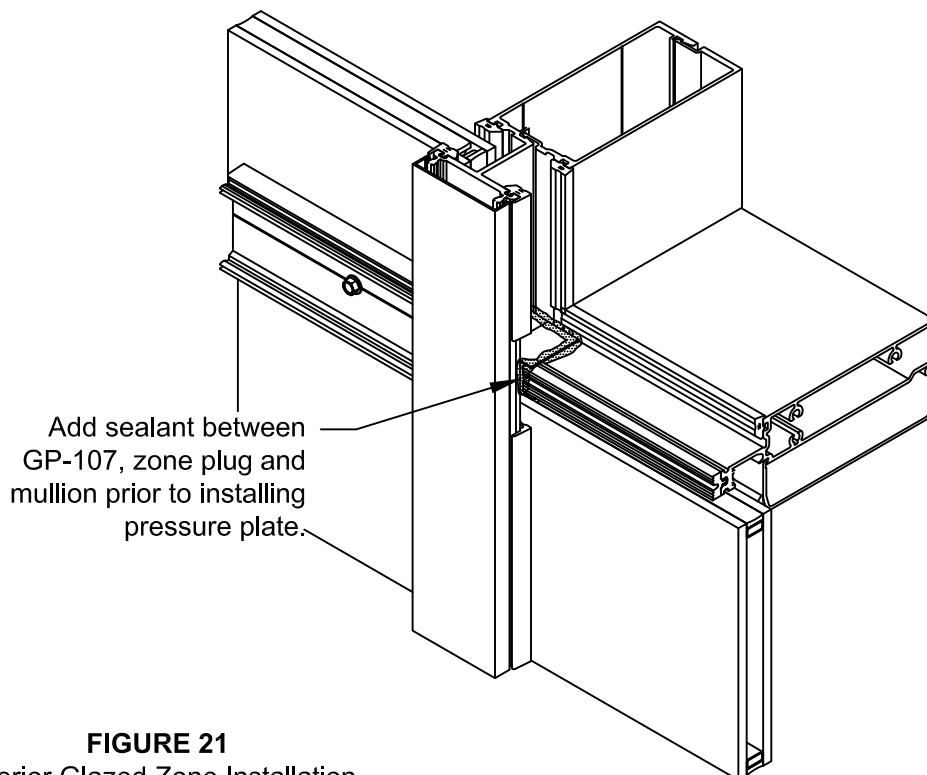

FIGURE 21
- 3.18 Exterior glazed horizontal will require sealant be applied along face of zone plug and horizontal stem prior to installing pressure plate. Since water testing of these area is not possible, special care need to be taken to seal the zone plug to prevent leaks. See FIGURE 21